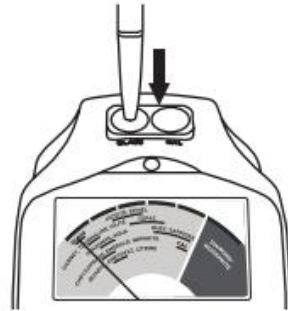

Figure 1.5
- Place the probe tip on the glass test panel to the left of the indicator light (Figure 1.5). After this operation, the pointer should reach its highest point within two to three seconds, penetrating deep into the red stripe of the instrument panel.